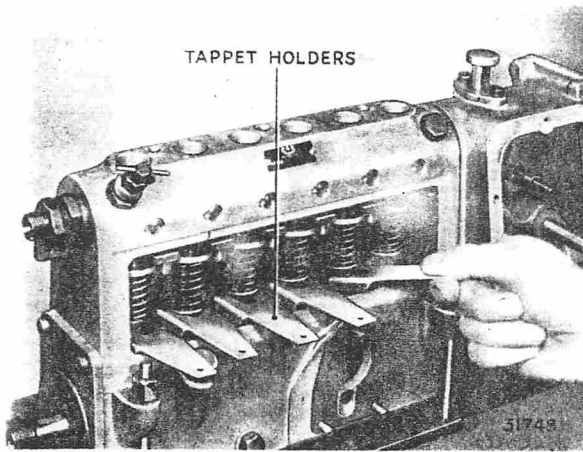

FIG. 25. FITTING TAPPET-LIFTING-PLATE
4. Rotate the camshaft to bring each tappet assembly to its top dead centre position and insert the tappet holder under the head of the tappet adjusting screw (Fig. 25).